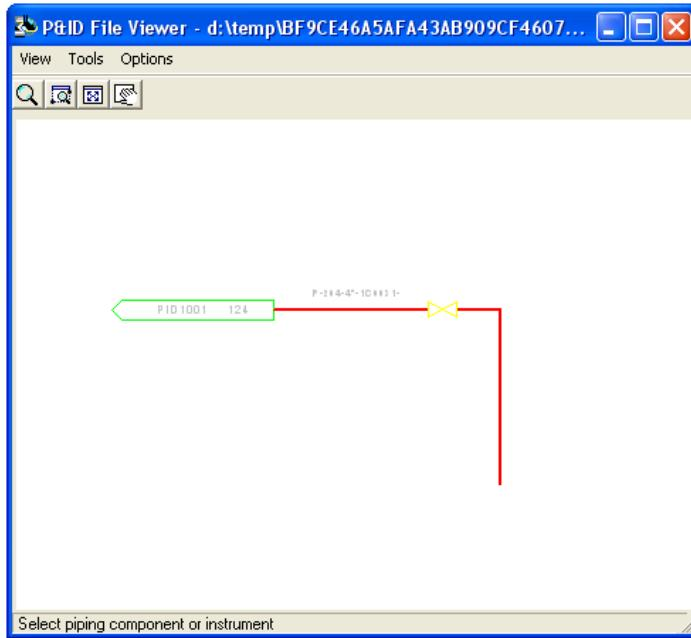

Figure 54: P&ID File Viewer Window
39. The **P&ID File Viewer** window appears. In the **P&ID File Viewer**, select the gate valve, as shown in Figure 54.